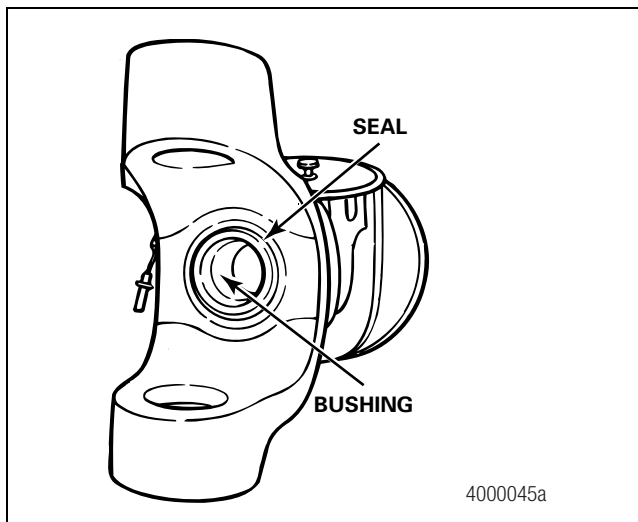

Figure 4.32
2. Remove and replace the inner axle shaft oil seal and bushing in the axle housing. Figure 4.32.